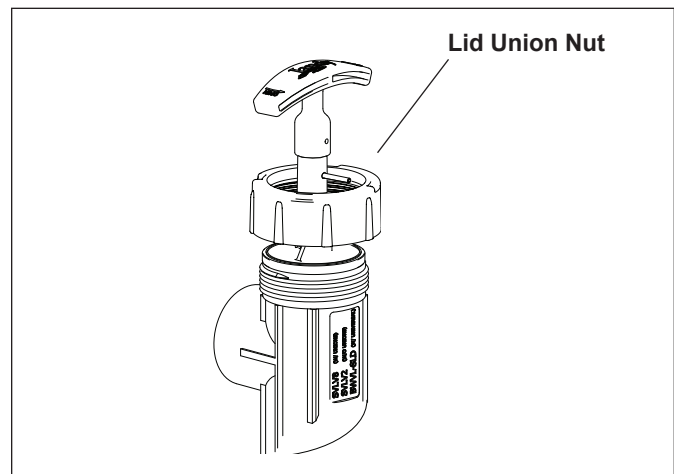

Figure 8. Loosen Lid Union Nut
3. Loosen the lid union nut. See Figure 8.